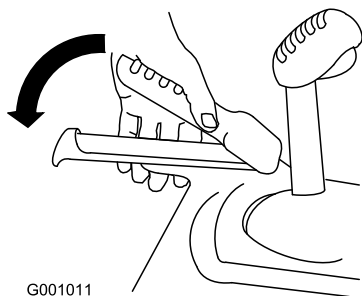

Figure 34
1. To engage the traction drive, squeeze the left hand (traction) lever to the handgrip (Figure 34).